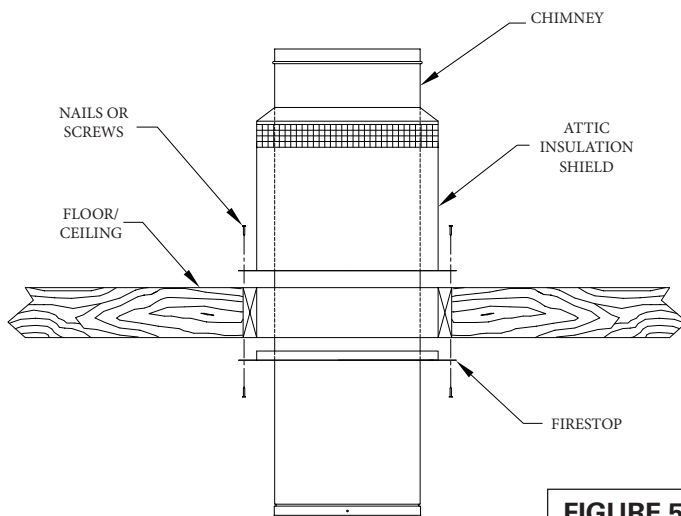

FIGURE 56
- Secure the Attic Insulation Shield to the top of the framed opening using nails or screws. See **Figure 56**